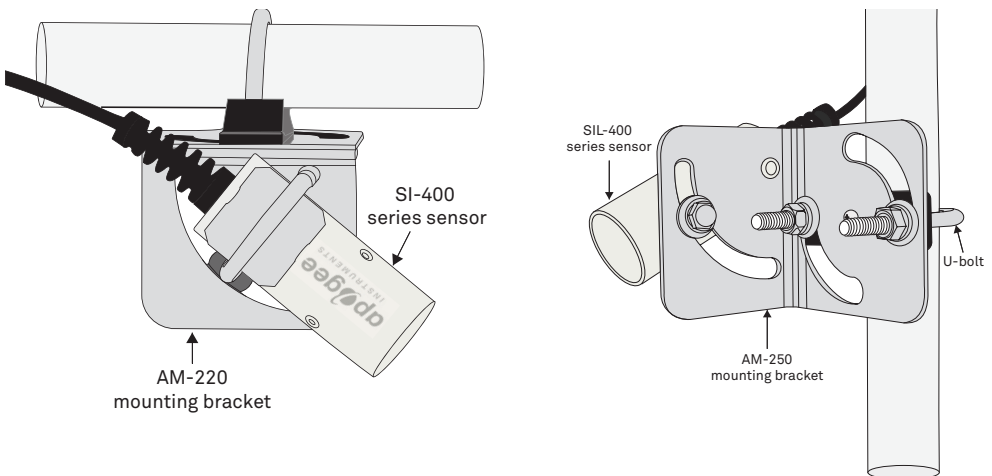

Figure 2 Apogee IR sensor and mounting bracket
4. Attach the sensor to the mounting bracket using the included U-bolt or straight bolt (Figure 2).